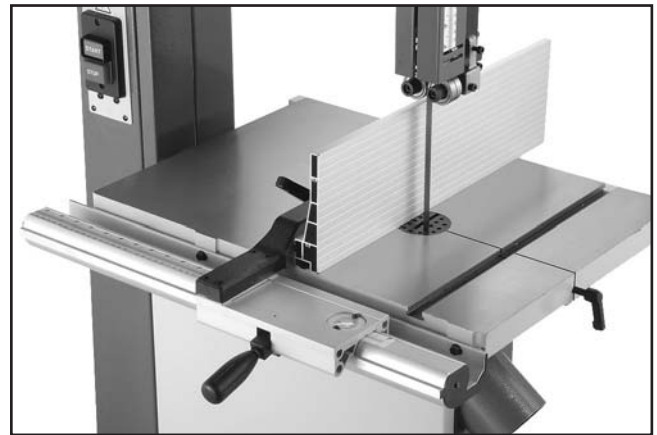

Figure 39. Correctly installed fence.
8. Pull the fence handle up and place the fence assembly on the fixed rail as, shown in **Figure 39**.